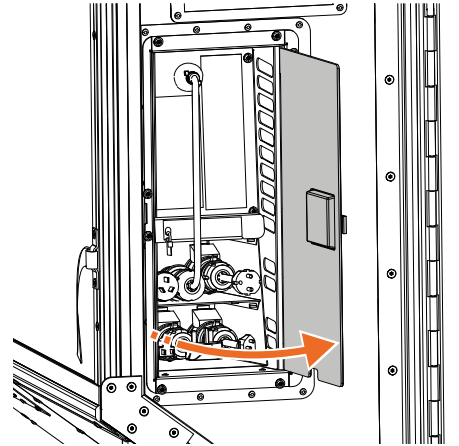

Fig. 25
1. Open the cover of the charging unit (**Fig. 25**).